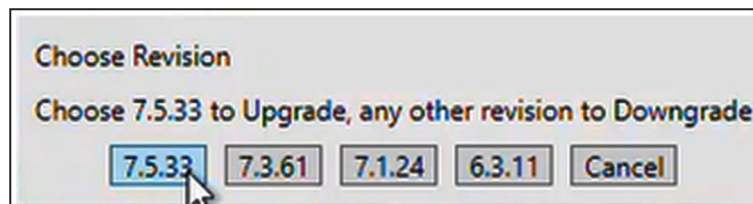

Figure 18. The Choose Revision dialog box for selecting the firmware version.
STEP 7. When the firmware update Choose Revision dialog box appears, select the firmware version to update the control to. See Figure 18.